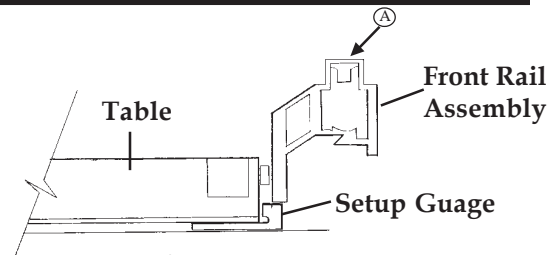

Figure A-1
2. With your table upside down on a flat smooth surface, slide the setup gauge (25) under the front edge of the saw table near the table's center, the thick part should stick out from under the front and up toward the underside of the table (See Figure A-1).
3. Insert the flat head screws (23) through the front rail assembly (17) from the front, slide the spacer (24) on the screw and slide the screws through the tube mounting holes in the table.
4. Place the flat washer (120392) on the screw and then the keps nut (515294). Finger tighten only. Make sure the setup gauge (25) is flat against the surface of your table and against the front rail assembly and tighten nuts securely.
5. Slide the small diameter end of the spring (22) over the knob (21) (See Figure A-2). Thread the knob with the spring into the threaded inserts near each end of the rail assembly (Marked A in Figure A-1).
6. Repeat steps 2, 3, 4, and 5 for the rear rail assembly (19) on the main saw table.